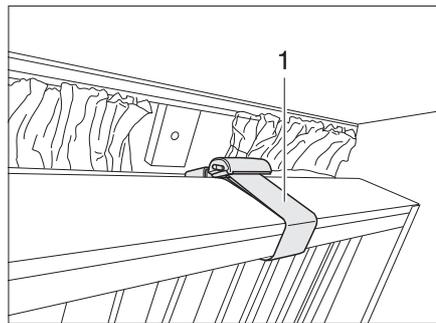

Fig. 65 Bunk bed, folding
- ▶ When the bunk bed is folded up, secure it with the retaining belt (Fig. 65,1). There is a risk of injury!
The bunk beds can be folded up and secured with the retaining belt (Fig. 65,1). The space under the bed can be used for storage.